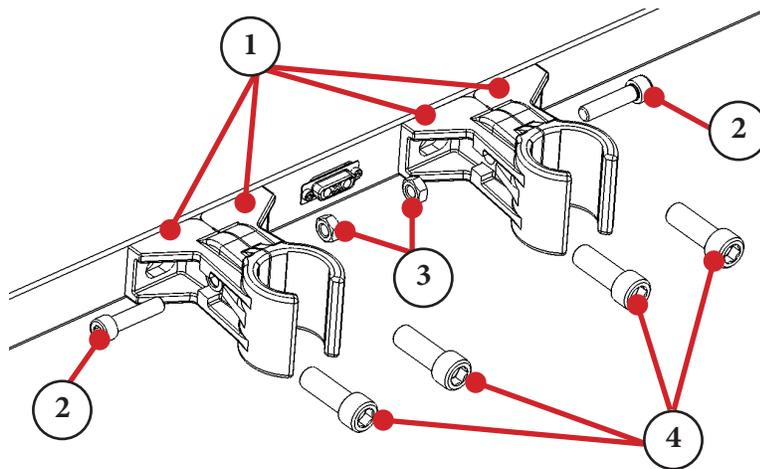

Figure 8.1 - Shelf Assembly
2. Loosen the M8 screws (Figure 8.1, Item 2) holding the shelf clamps together (Item 1). Do not remove the screws completely. Be sure to keep track of the nuts (Item 3) on the inside of the clamps.
2. Assemble the shelf clamps by combining the clamp pieces as shown in Figure 8.1 (Item 1). Use the M8 clamp screw (Item 2) and clamp nut (Item 3) to loosely assemble the clamps.